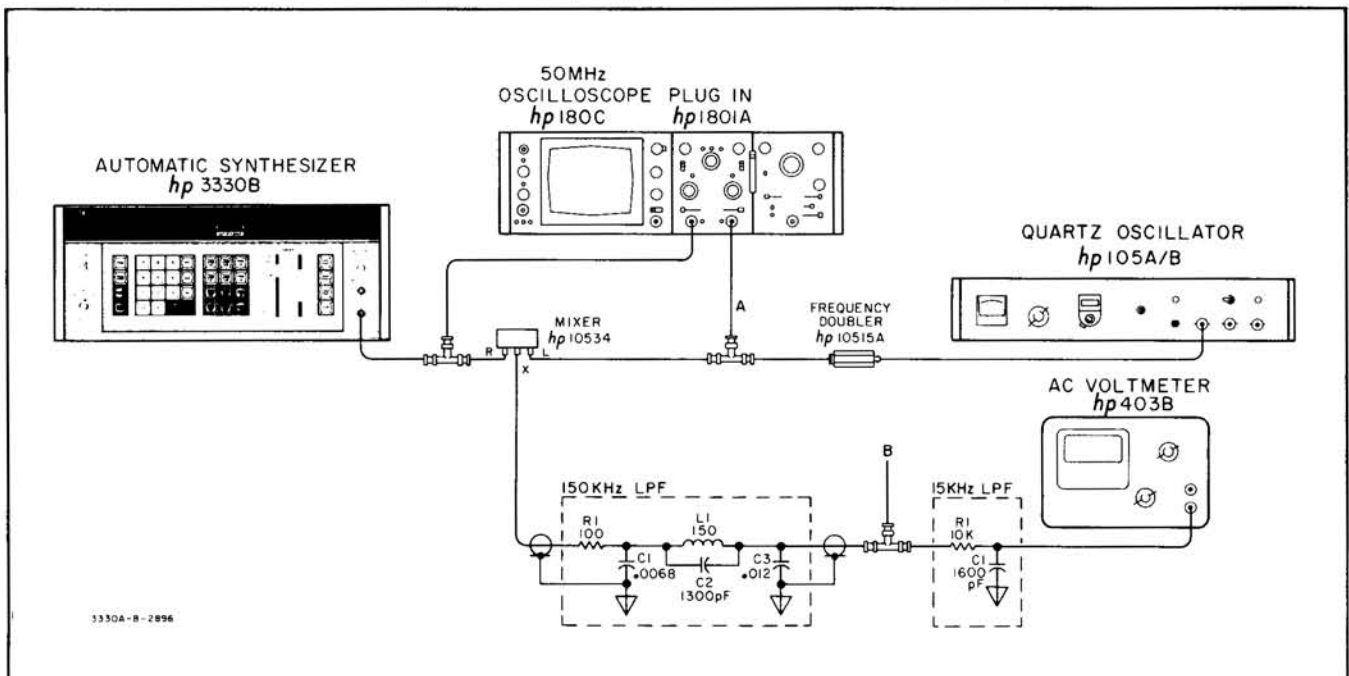

Figure 5-2. Signal to Phase Noise.
b. Connect the equipment as shown in Figure 5-2.
g. Disconnect Channel B of the oscilloscope from point A (Figure 5-2) and connect to point B.